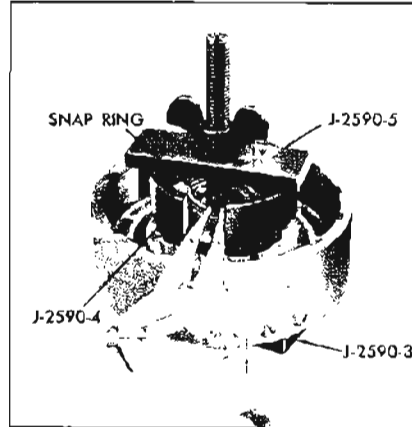

Figure 5-604
5. Using J-2590 clutch spring compressor, compress the spring retainer and remove the snap ring. See Figure 5-604.